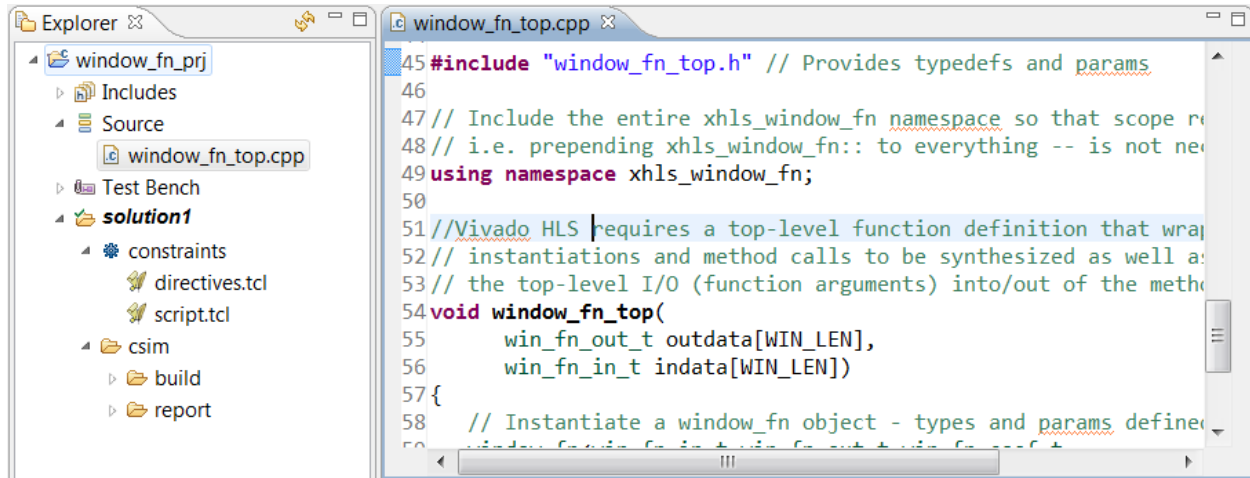

Figure 94: C Code for C Validation Lab 3
1. Open the Source folder in the explorer pane and double-click `window_fn_top.cpp` to open the code as shown in **Figure 94**.